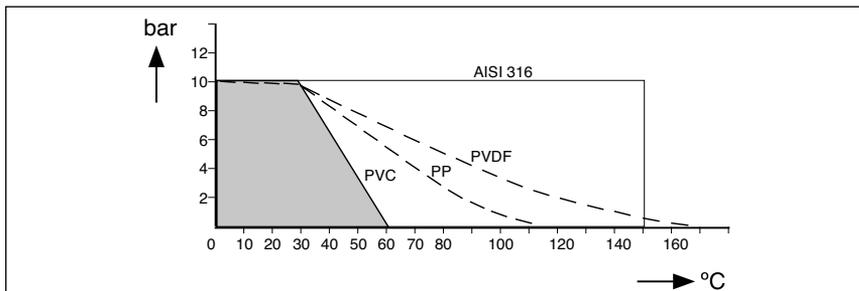

Fig. 2.1 Pressure/temperature class
- max. : depending on material and application (see figure 2.1)
Pressure : see figure 2.1